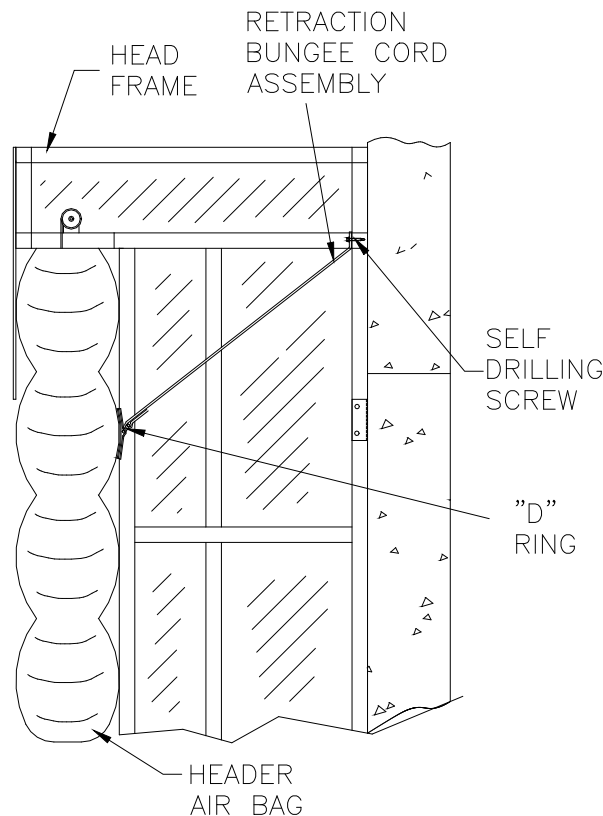

FIG. 12A
c. Reattach Retraction Bungee Cord Assembly to Head Frame (Figure 12A).